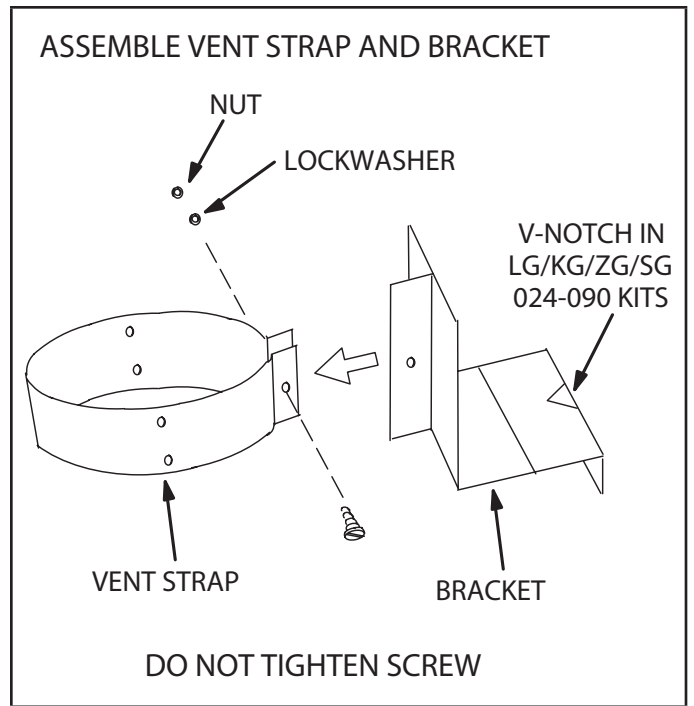
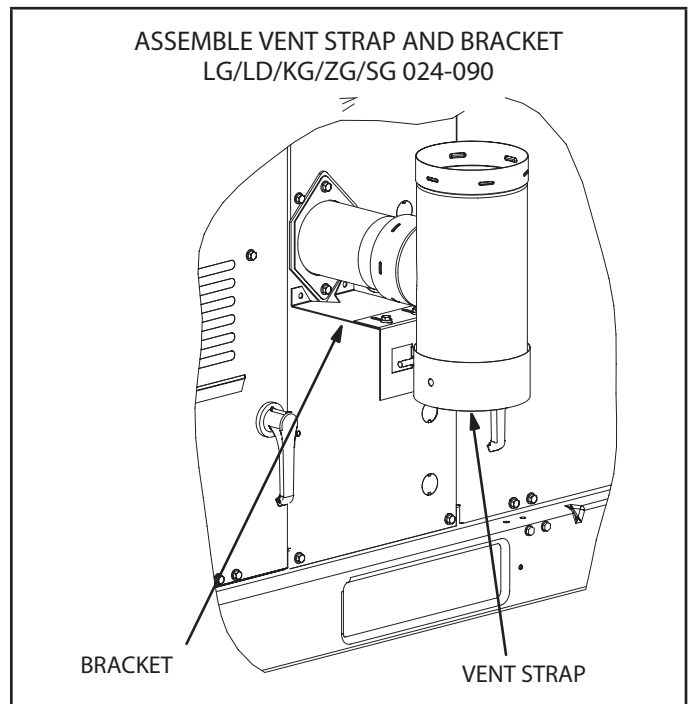

FIGURE 3
FIGURE 4
- 4 - Assemble the vent strap and bracket as shown in figure 3. Do not tighten screw. On LG/LD/KG/ZG/SG 024-090 units, turn the bracket 180 degrees to allow clearance for the door handle. See figure 4.
- 9 - Assemble vent strap and bracket as shown in figure 3 without tightening screw.